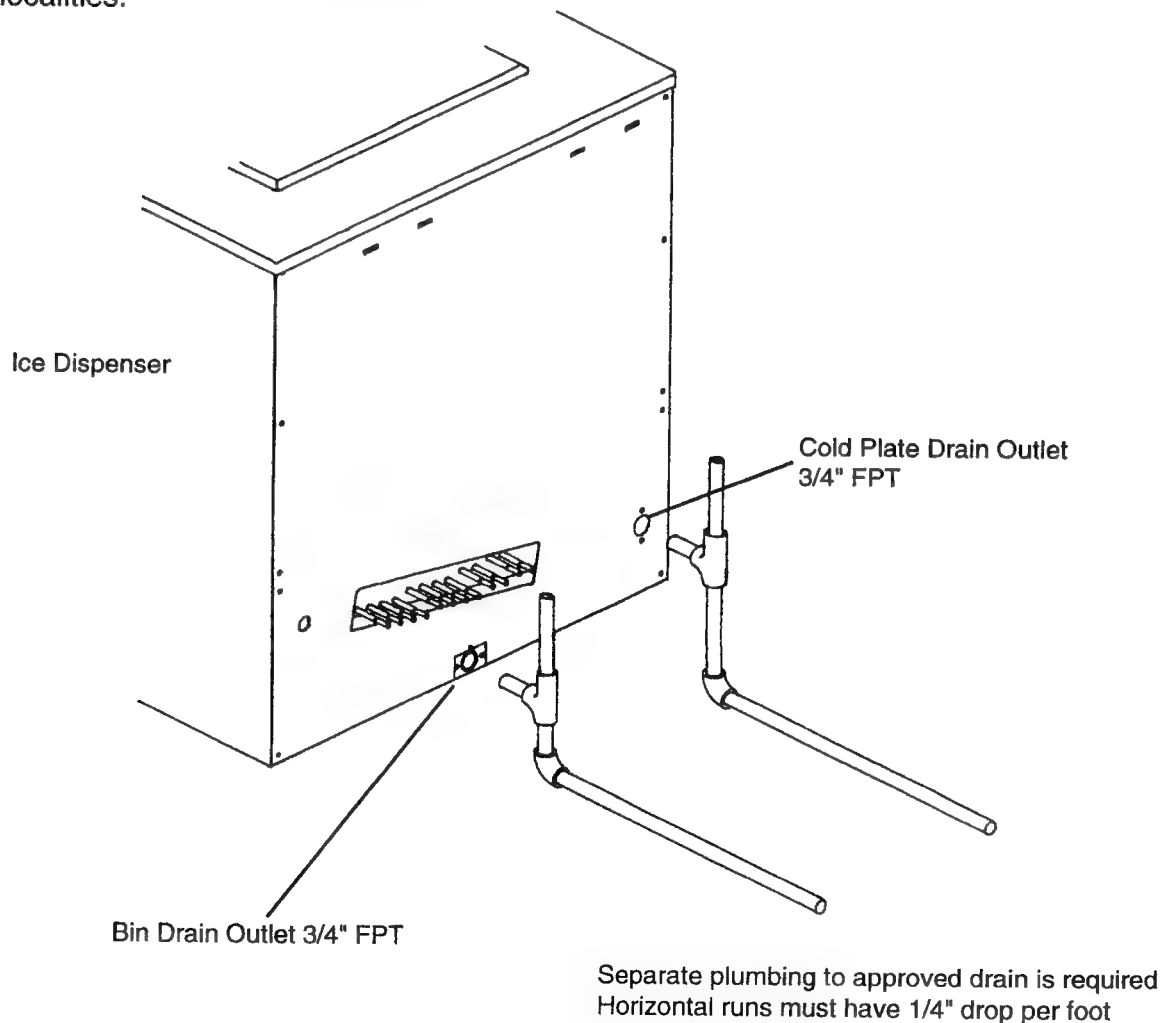

Fig. 1
5. DRAIN CONNECTION (Refer to Fig. 1)
- 2) All horizontal runs of drain pipe must have a 1/4 inch drop per foot to promote good drainage. See the Drain Connection diagram (Fig. 1).